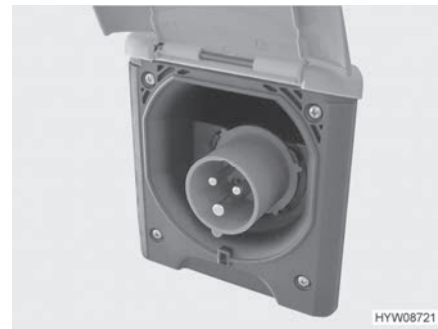

Fig. 81 230 V connection on the vehicle (CEE socket outlet)
- Open the cover of the 230 V connection on the vehicle (Fig. 81) and insert the plug connector. Ensure that the detent of the spring-mounted pivoting cover is engaged in position.